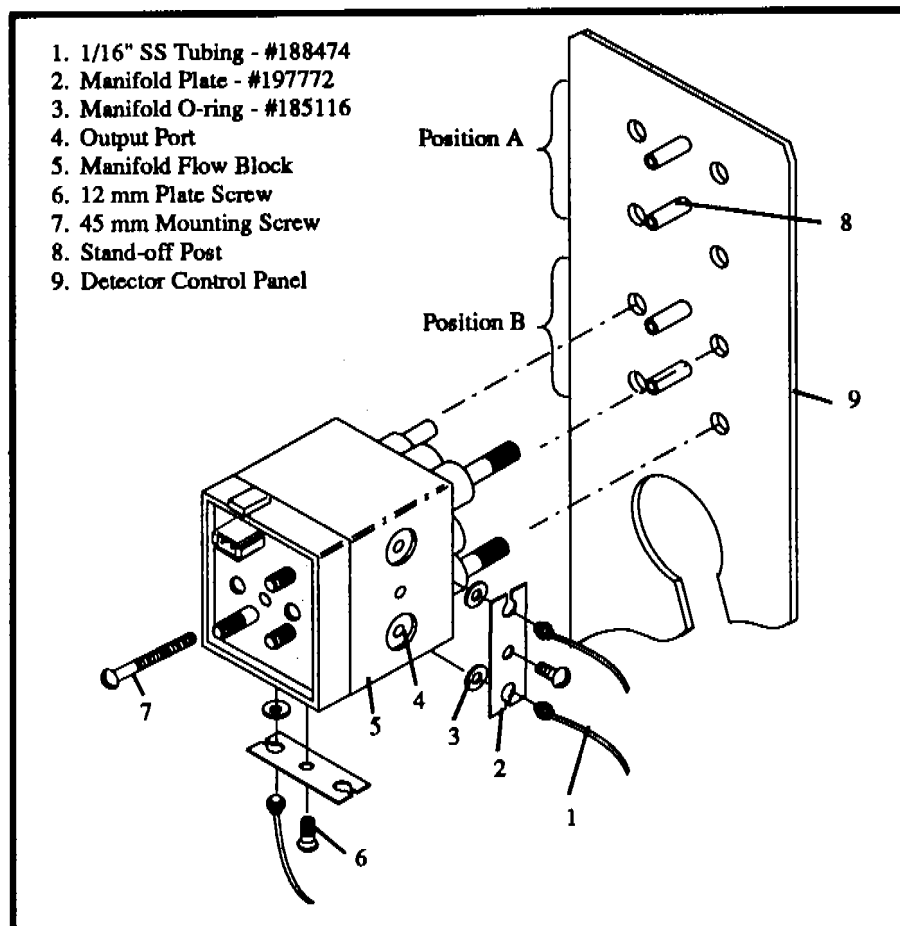

Fig. 3.1 Installation of Gas Flow Module
- Connect a 1/16" stainless steel gas line (OI Analytical #188474) to the auxiliary makeup output port at the bottom of the Gas Flow Module. Place a manifold O-ring (OI Analytical #185116) from the Gas Flow Module Start-up Kit into the output port, pressing the button fitting against the manifold O-ring (see Fig. 3.1, page 11).
- Connect the other two 1/16" stainless steel gas lines to the hydrogen and air output ports at the side of the Gas Flow Module. Install these gas lines in a manner similar to the auxiliary makeup line (see Fig. 3.1, page 11).
- Slip the Module into place on the backside of the front panel as shown in Fig. 3.1. The Module fits over the two stand-off posts and is fastened with the M4 x 45 mm mounting screw (*do not over-tighten the screw*). Check the ON/OFF valves for freedom of movement. If the valve knobs are difficult to adjust, loosen the mounting screw and adjust the ON/OFF knob position until approximately half-open. Re-tighten the mounting screw and again check for valve knob freedom of movement.